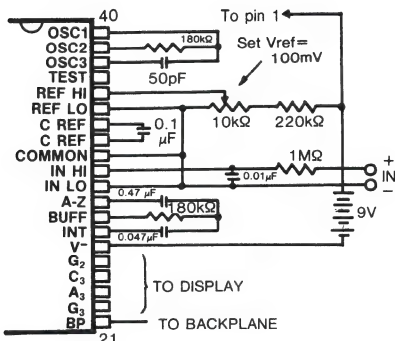

Fig. 3.
* Values depend on clock frequency. See figures 3,4,5.